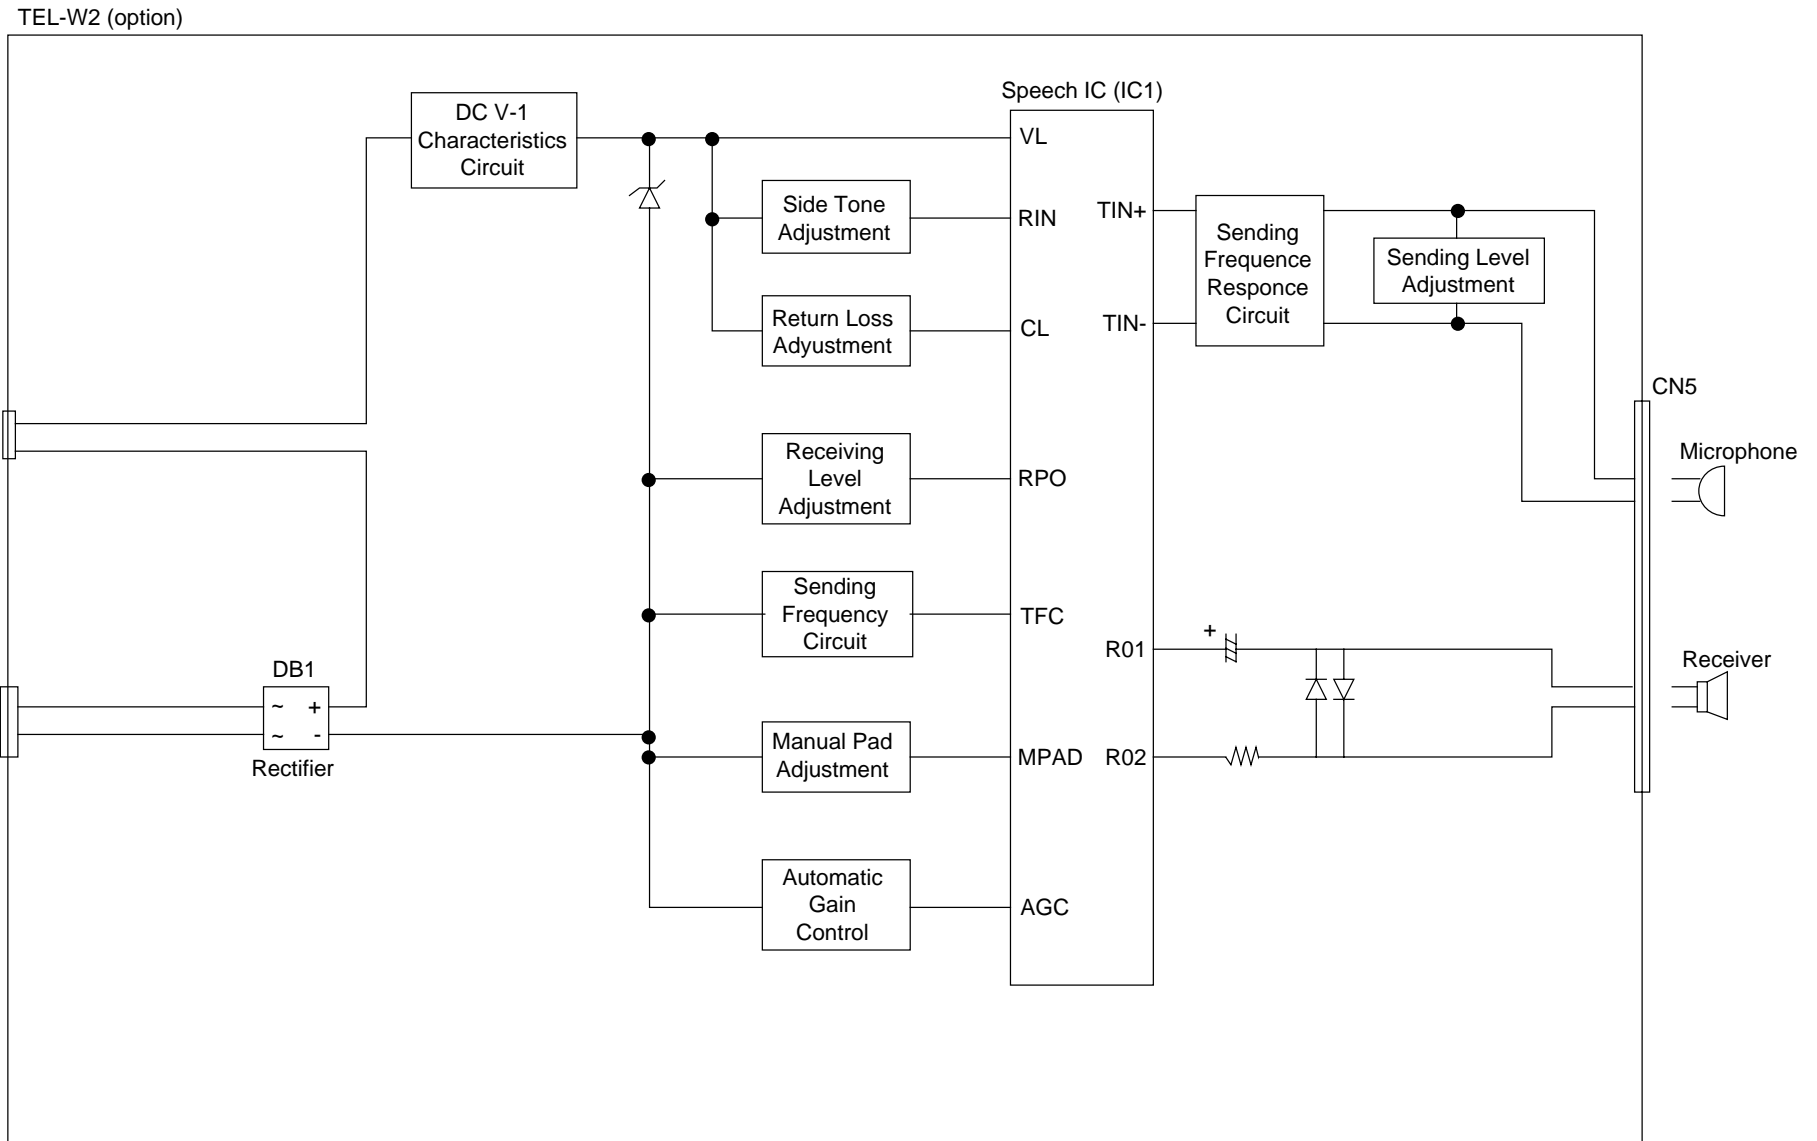

Figure 3.31 Block Diagram of TEL-W2 (option)
- Figure 3.31 shows a block diagram of TEL-W2 circuit.